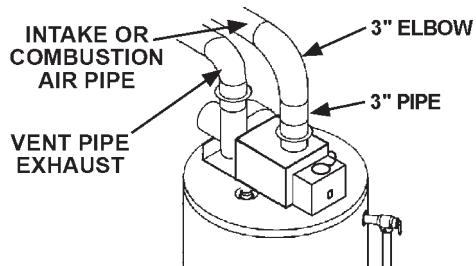

FIGURE 15.
3. Make sure there is no packing material in the discharge of the blower or the intake, see Figure 15.
Figure 15 shows the typical vent connections.